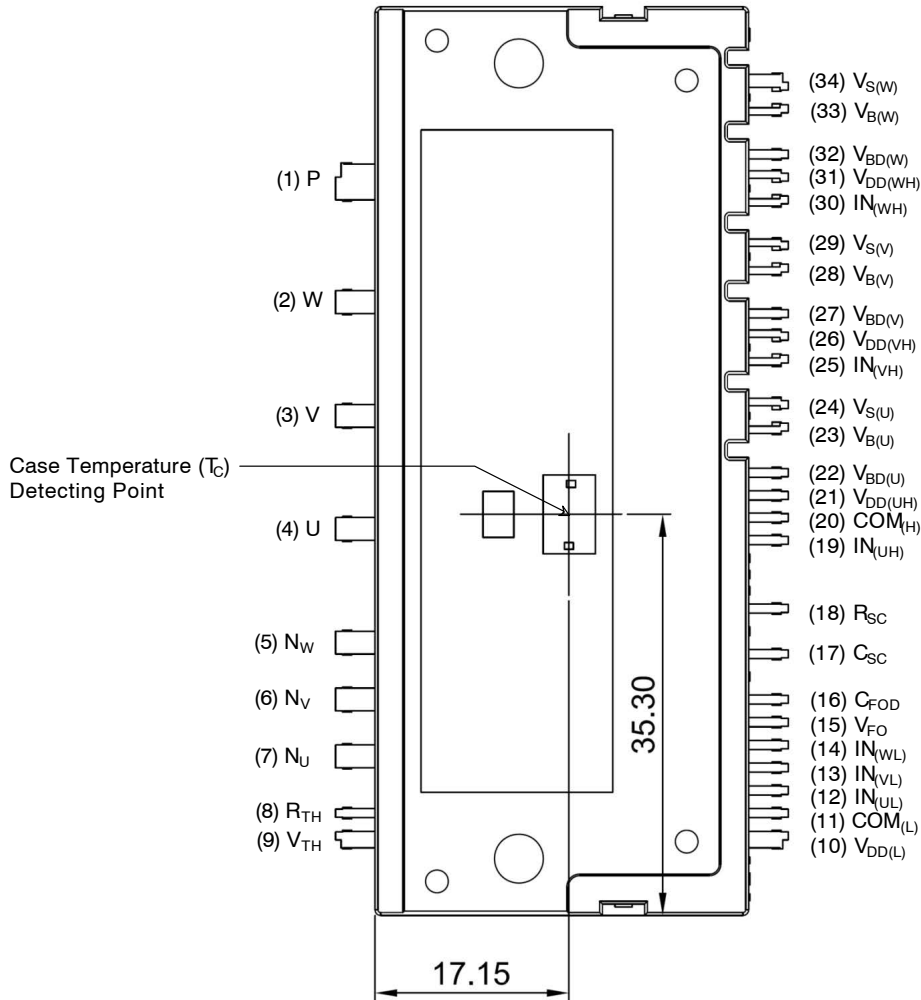

Figure 2. Top View
- 1200 V–35 A IGBT inverter for three–phase DC/AC power conversion (Refer to Figure 2)
5. For the measurement point of case temperature (T_C), please refer to Figure 2. DBC discoloration and Picker Circle Printing allowed, please refer to application note AN-9190 (Impact of DBC Oxidation on SPM[®] Module Performance).